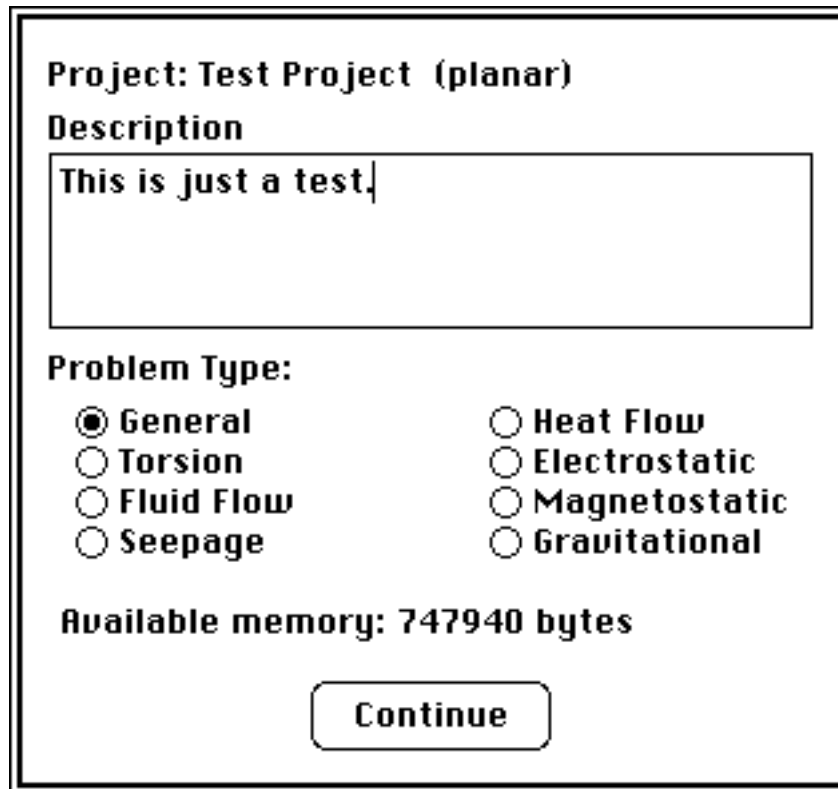

Fig 3.105 Describe project
- Provide a project description (Fig 3.105).